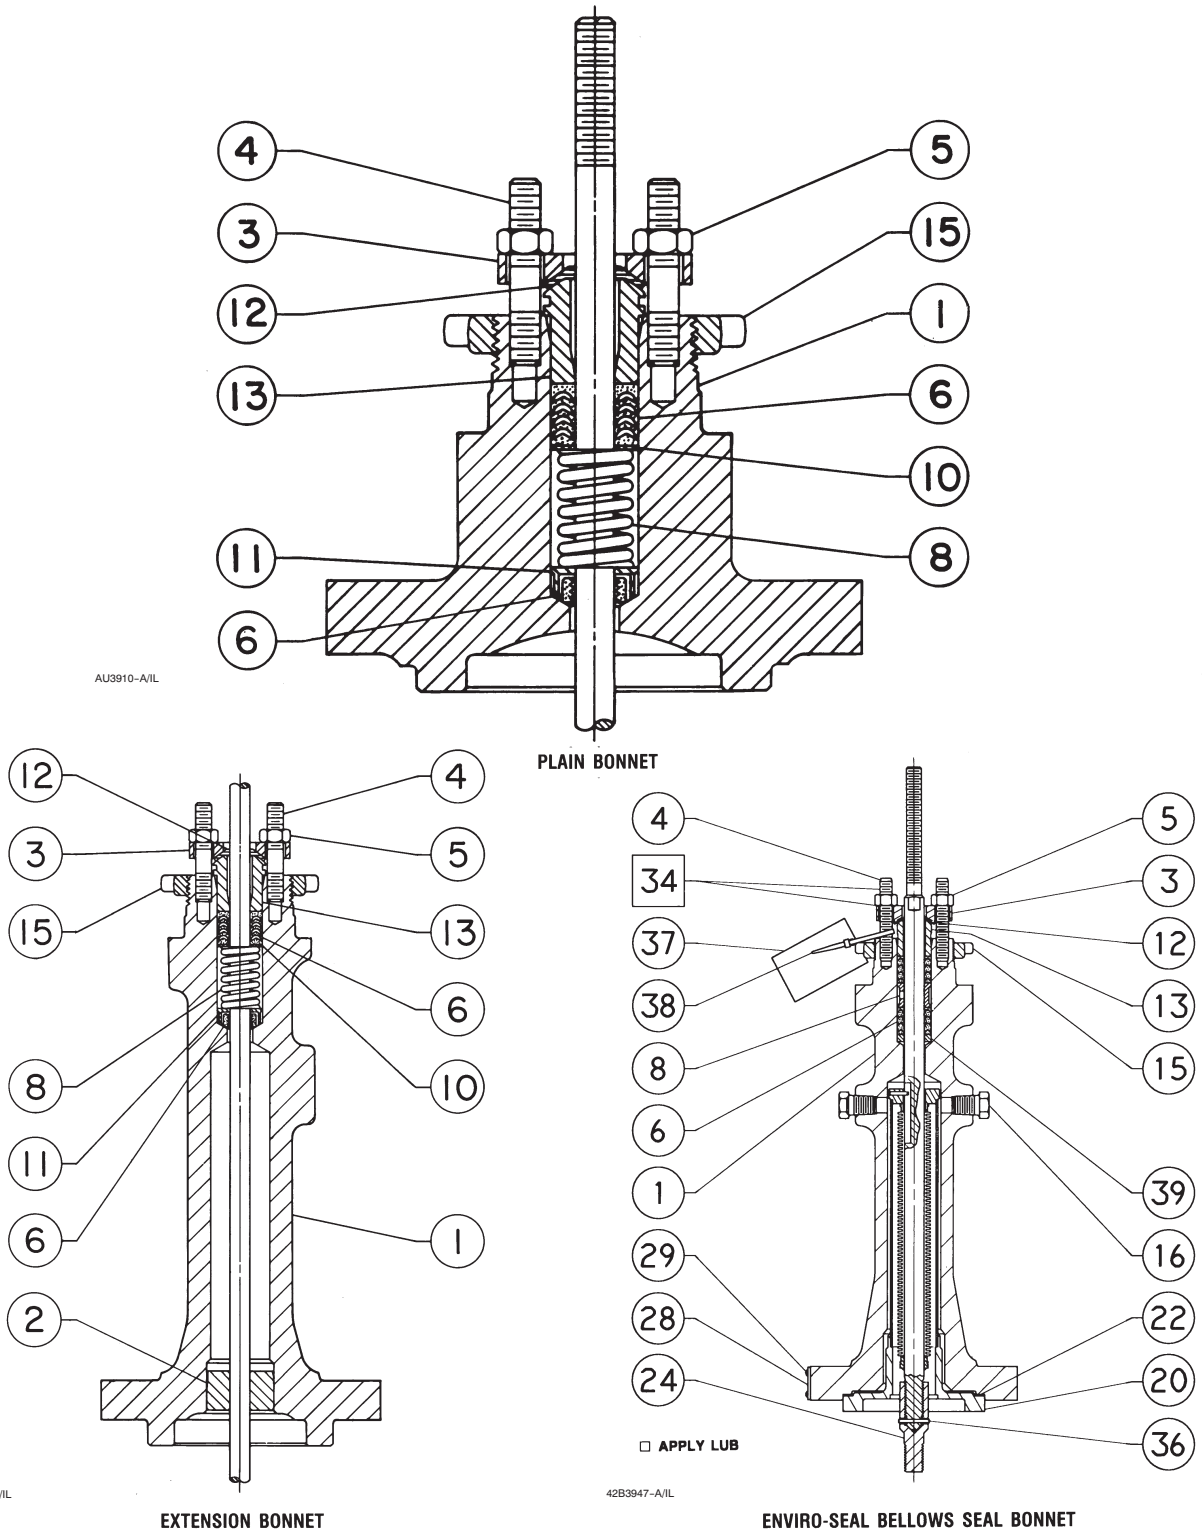

Figure 11. Typical Bonnets
4. If the existing valve plug and adaptor are not in good condition and must be replaced, first, place the existing stem/bellows assembly and valve plug and adaptor assembly in a soft-jaw chuck or other type of vise so that the jaws grip a portion of the valve plug that is not a seating surface. Drive out or drill out pin (key 8, figure 12). Drive out pin (key 36, figure 11).
6. To attach either the existing valve plug or a new one to the stem of the new ENVIRO-SEAL stem/bellows assembly, it is necessary to first attach the valve plug to the adaptor (key 24, figure 11), if the valve plug was removed from the adaptor. Locate the adaptor. Notice that a hole has not been drilled in the new adaptor threads where the valve plug screws onto the adaptor.
The ENVIRO-SEAL bellows seal bonnet has been designed so that it can be purged or leak tested. Refer to figure 11 for an illustration of an ENVIRO-SEAL bellows seal bonnet, and perform the following steps for purging or leak testing.